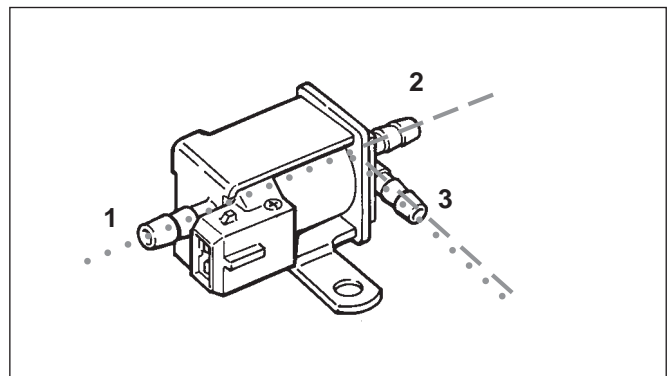

Fig. 2 Electric switch over valve
–Check for fouling with a hand vacuum pump, Fig. 2.
–Without voltage applied, connect hand vacuum pump to connection 2, Fig. 2 and apply a differential pressure of about 500 mbar.